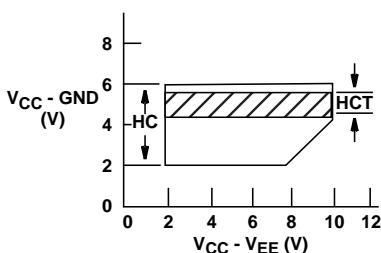

FIGURE 2.
In addition these devices contain logic-level translation circuits that provide for analog signal switching of voltages between $\pm 5V$ via 5V logic. Each switch is turned on by a high-level voltage on its select input (S) when the common Enable (E) is Low. A High E disables all switches. The digital inputs can swing between V_{CC} and GND; the analog inputs/outputs can swing between V_{CC} as a positive limit and V_{EE} as a negative limit. Voltage ranges are shown in Figures 2 and 3.
HC, HCT Types (Figure 2)2V to 10V